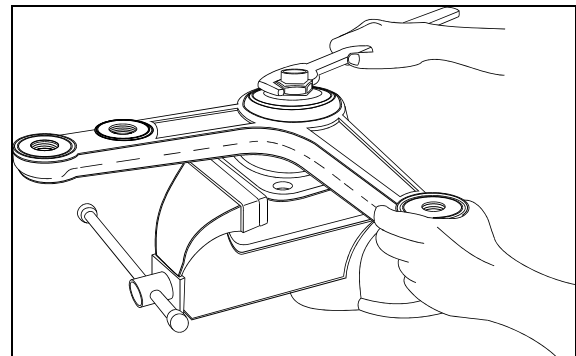

FIGURE 9: BELL CRANK
5. Firmly tighten nut (Fig. 9).
7. Check for loose bearings by applying an up and down load on bell crank or idler lever (Fig. 9). The lever is not supposed to move in the vertical axis direction.